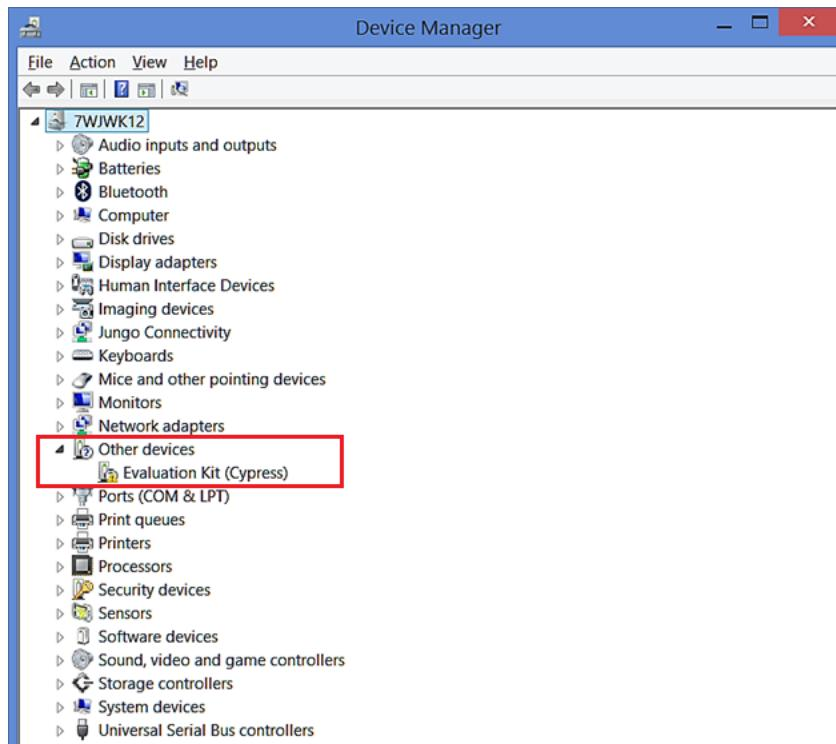

Figure 14. Device Manager View
3. Open the Device Manager where you should find the “Evaluation Kit (Cypress)” (Figure 14)